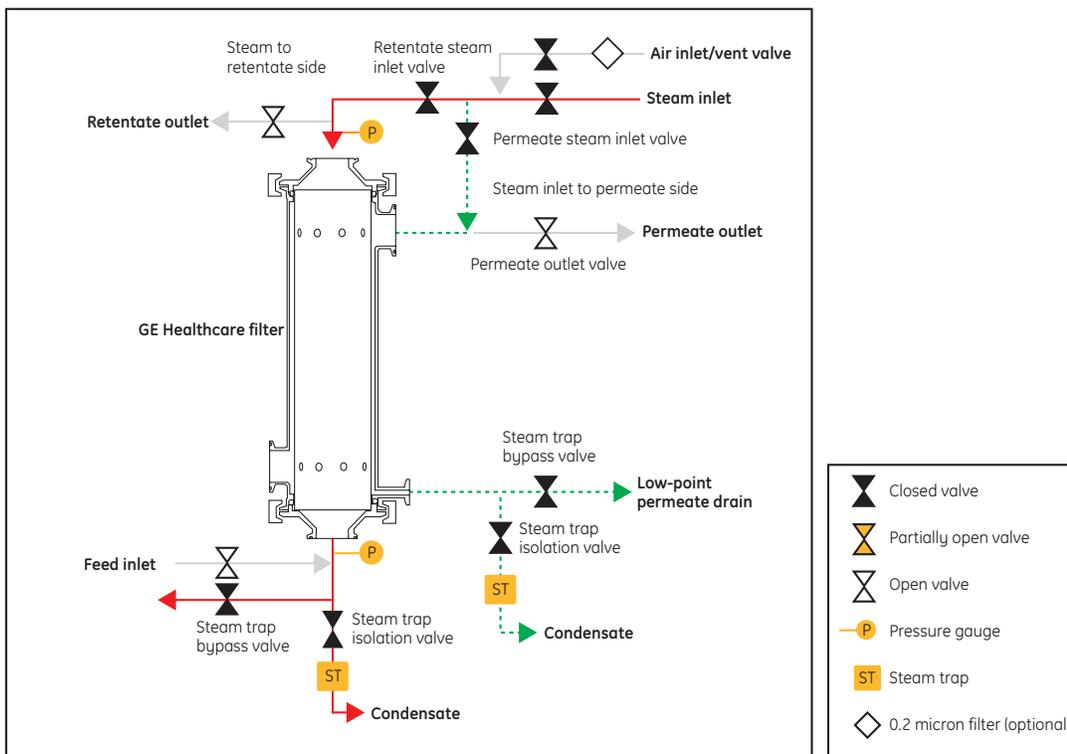

Figure 11. Starting setup for Stage 5—configure system for processing
- Figure 11. Starting setup for Stage 5—configure system for processing, 21